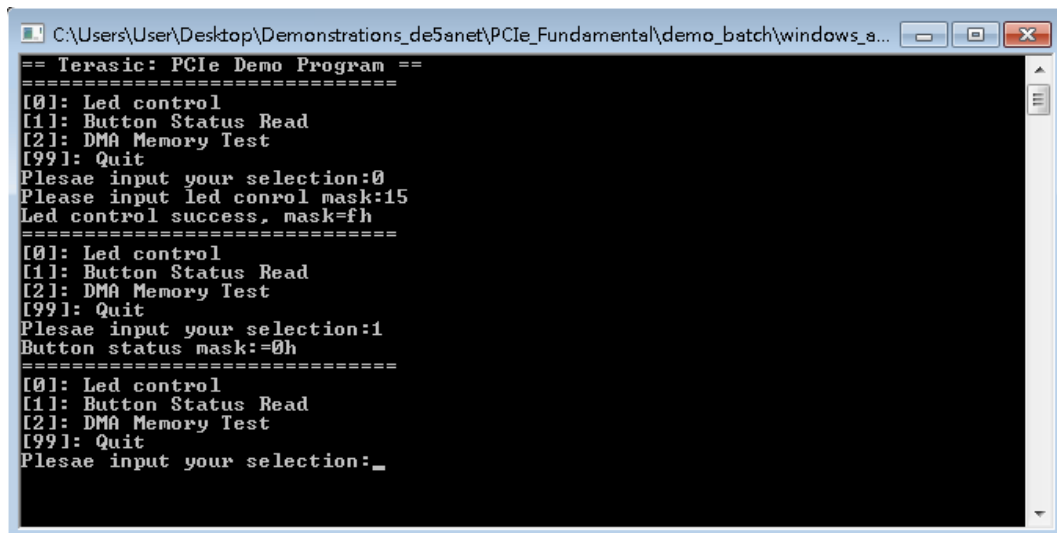

Figure 7-13 Screenshot of Button Status Report
- Type 1 followed by an ENTER key to select Button Status Read item. The button status will be report as shown in **Figure 7-13**.